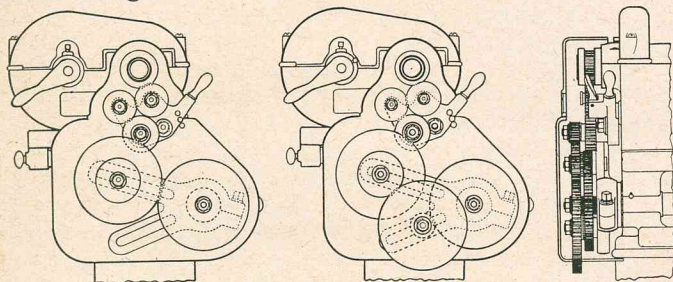

FIG. 4
A glance at Fig. 4 shows, graphically, how lead screw speeds are changed by means of change gears on a bracket at the headstock end of the lead screw. The sketch is of an independent change gear lathe (a lathe with its complement of "pick-off" gears instead of a lever operated quick change gear box).
binations to put into the bracket of the Metalworker lathe (or the correct position of the change gear lever on other Sheldon lathes) for cutting any size thread. The gears on the Sheldon Metalworker which are changed are the stud gear and the screw gear, as shown in Fig. 4. Each of the 8 gears supplied with the Sheldon Metalworker (Fig. 5) has the number of its teeth stamped on it so that with the permanent index chart it is easy to select the correct gear combination to give any desired thread pitch. To change the thread pitch (the number of threads per inch) on Sheldon lathes that have a gear box, it is necessary only to place the gear box plunger in the correct indexed hole and the gear-box top lever and the sliding-gear knob in the position indicated on the brass index chart to get any desired thread. (More detailed instructions are given under Thread-cutting in this book.)
3. **Gears.** Mounted on the "off" (left) end of the Headstock are the change gears (for thread cutting) and reversing gears (for changing the rotational direction of the lathe). (Fig. 4)